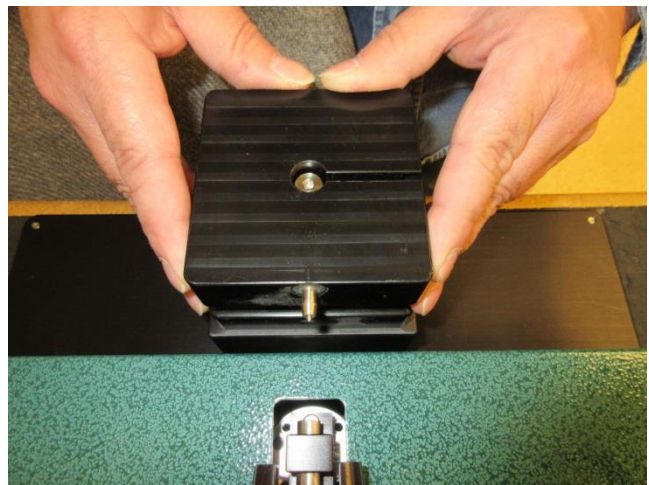

Figure 10: Mounting the nest
- Place the nest on the pedestal ensuring the dowel pin is inside the bushing. (Figure 10)